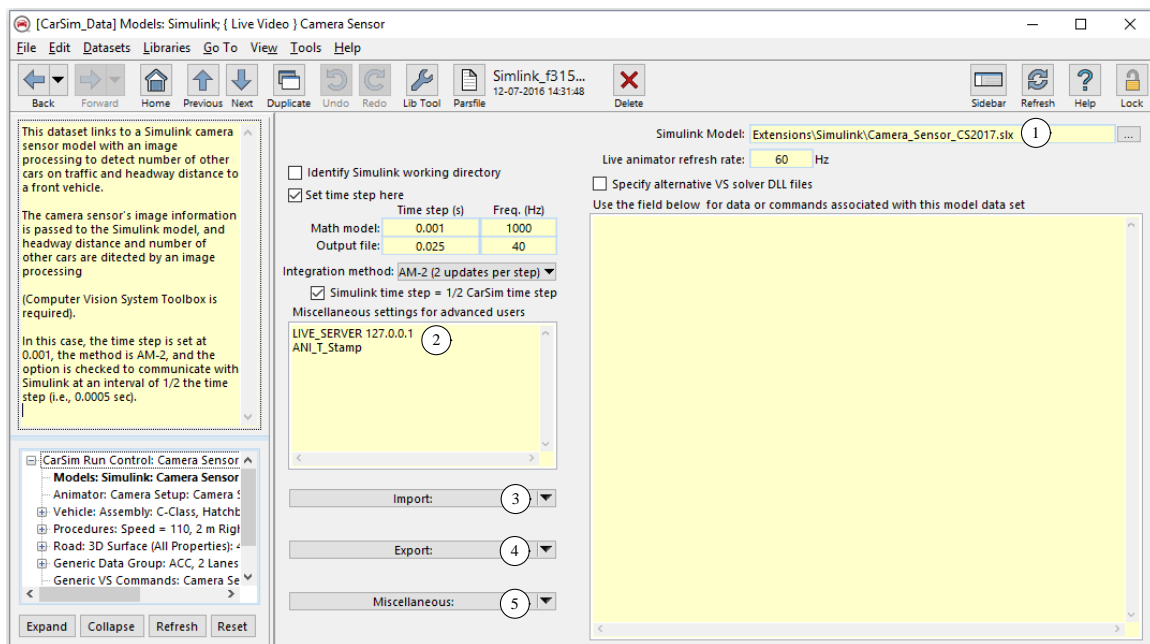

Figure 6. Models: Simulink dataset.
The **Run Control** dataset has a link to a dataset from the **Models: Simulink** library (3), shown in Figure 6. Notice that there are no import/export variables linking the vehicle model to Simulink; the potential links ((3), (4), (5)) are not used. All information from the camera sensor to the Simulink model is automatic as part of the VS Camera S-Function.